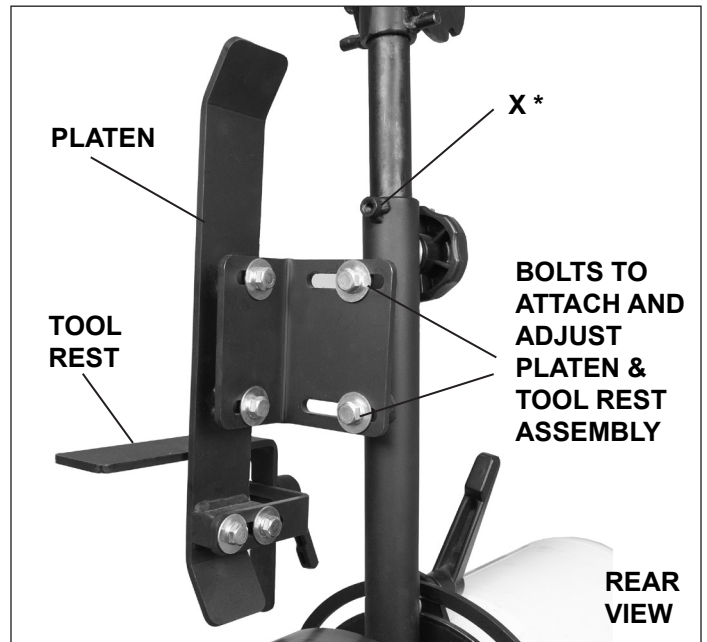

FIG. 5
The Platen and Tool Rest Assembly (P & Q) attaches to the Pivot Arm (I) with the two hex bolts, lock washers and flat washers (Parts Diagram #10, 1-6, 1-5) that are pre-installed on the pivot arm's two mounting posts. Once attached, the platen and tool rest can be individually adjusted to the sanding belt. FIG. 5.
The Platen (Parts Diagram #12) is a heavy steel support plate that is positioned behind the sanding belt. Its purpose is to support the belt when sanding. The platen should be adjusted so that it is almost touching the back of the sanding belt. This can be done by loosening the two hex screws (#10) that fasten the back of the platen to the bracket (#11). If the platen is out of alignment for some reason, loosen these two screws, adjust the platen, and re-tighten the two screws. FIG. 5.
NOTE: * The welded Nut 1/4"x20 at that top of the pivot arm (FIG. 5, X) is for attaching optional dust or safety shields (not included).